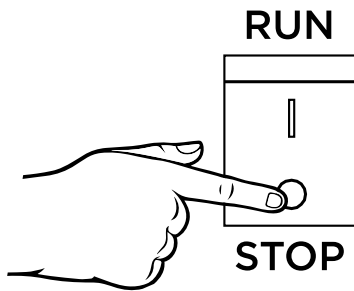

Figure 6: Push engine control switch to STOP position
3. Push the engine control switch to the **STOP** position (see Figure 6) .
If there is an emergency and the inverter must be stopped quickly, move the engine control switch to the **STOP** position immediately (see Figure 6).